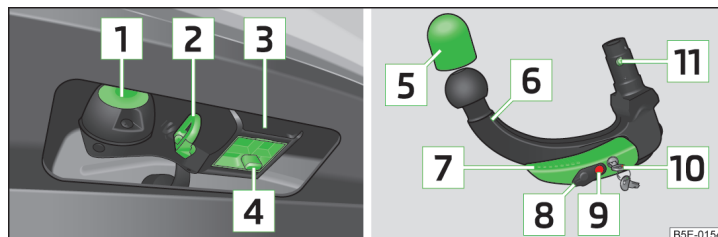

Fig. 153 Carrier for the towing device/tow bar
Image description » Fig. 153
- › Pull cap **4** » Fig. 153 on page 163 downwards.
- Place the cap **4** » Fig. 153 on page 163 onto the mounting recess.